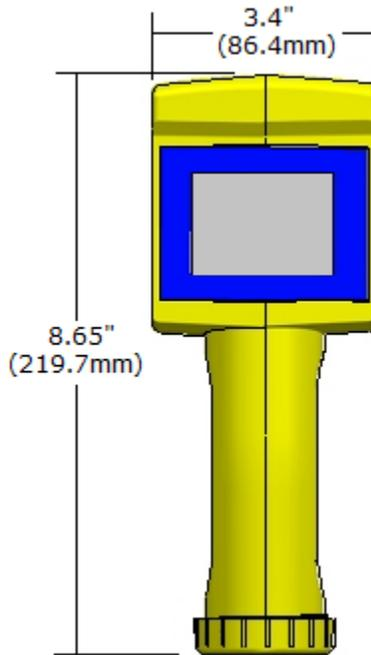
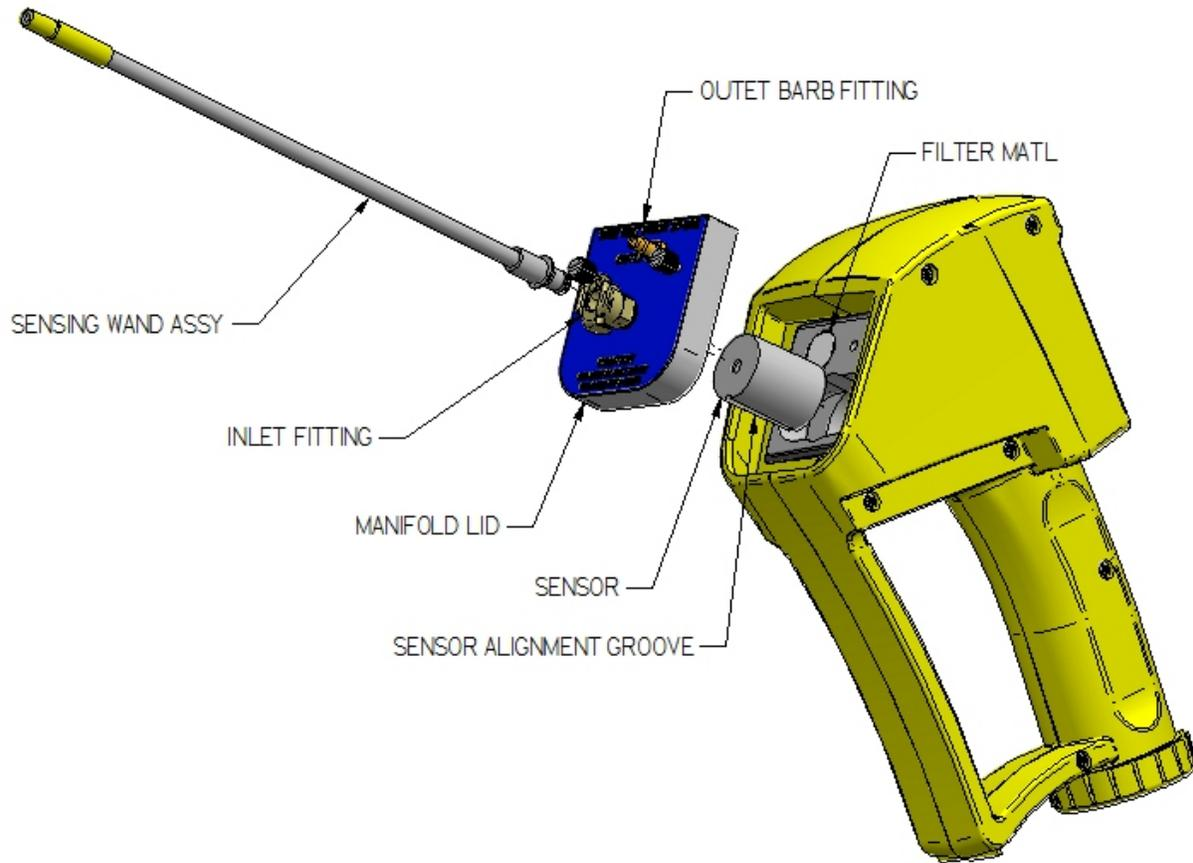

Figure 1. PortaSens III, front view.
Figure 2. PortaSens III, rear view.
- *D16 PortaSens III* Portable Gas Leak Detector (Figure 1)
- (2) D-cell, NiMH batteries
- Sampling wand (Figure 2)
- Outlet tube barbed fitting (Figure 2)
The inlet port, located on the manifold lid, is fitted with a quick-disconnect fitting to connect the flexible wand (see Figure 2 on page 8). The wand can be used for probing closely around pipes and fittings, and for sampling confined spaces without entering. The wand is lined with Teflon™ and is inert to nearly all vapors and gasses.
Loosen the two thumb screws on the back of the D16 and remove the manifold shown in Figure 2 on page 8 and. If a sensor module is already installed, pull straight up to remove it. Insert the new sensor module into the recess, connector end first. Rotate it to align the groove with the guide pin, and then press down to seat the connector. The top of the sensor module should be flush with the top of the opening. Replace the manifold and hand-tighten the thumb screws.
Install a gas sensor module as described in Sensor on page 33, connect the sampling wand to the inlet port of the manifold (Figure 2 on page 8), and hold the “Wakeup” switch down for one second. When the D16 starts, it displays the pages shown below.